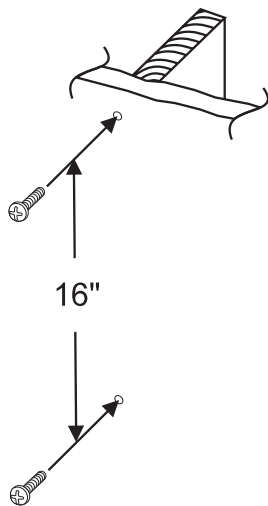

fig. 5
6. Place an unmounted bracket over each screw so that the screw head rests in the round section of the keyhole (Fig. 5). Don't worry about which keyhole to use at this point. Loosen the screw 1 to 1-1/2 turns, until the bracket is able to slide down and the screw head now rests in the narrow section of the keyhole. The wall screws are now properly set.